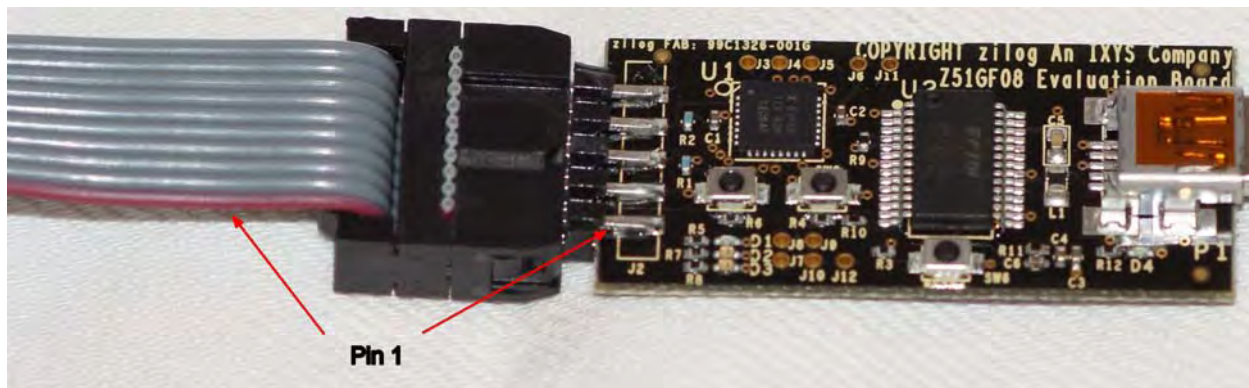

Figure 8. Connecting the 10-Circuit Cable to the Board
2. Connect the Z8051 OCD 10-circuit cable connector to the Z51F0811 Board's J1 and J2 connectors. Pin 1 of the cable connector is indicated by a red stripe, as shown in Figure 8.